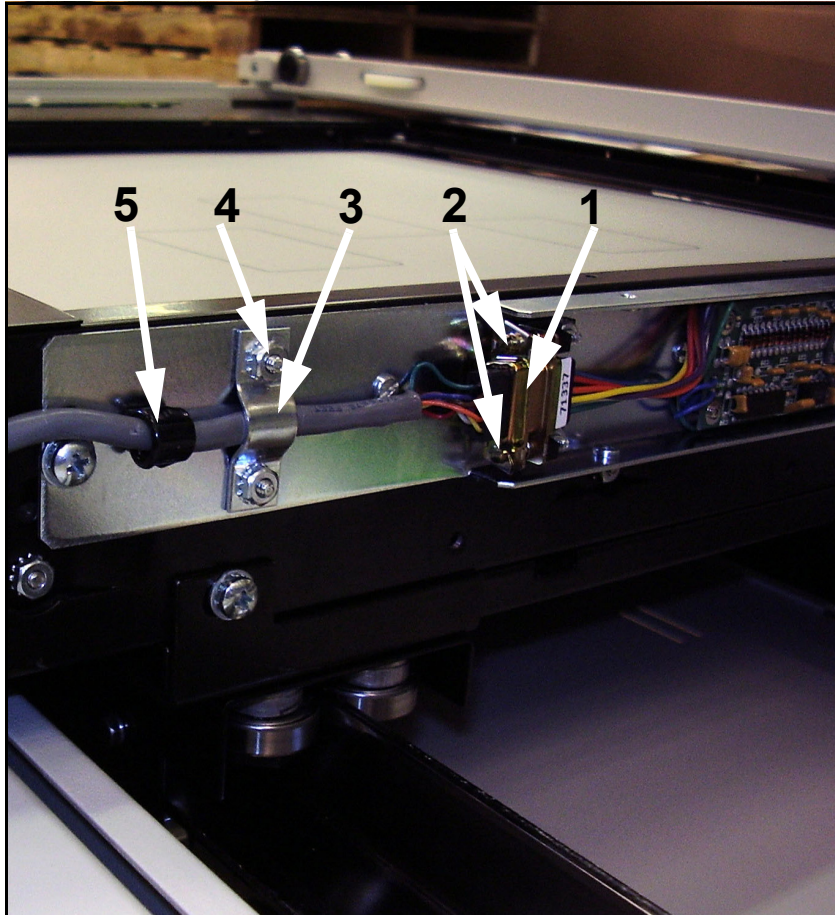

Figure 2-19. Ion Chamber Cable
- 35** Connect the internal ion chamber cable (1 in Figure 2-19) to the ion chamber and secure with the two mounting screws (2).
- 36** Install the clamp (3) over the cable and secure with the two nuts (4).
- 37** Insert the grommet (5) over the cable.